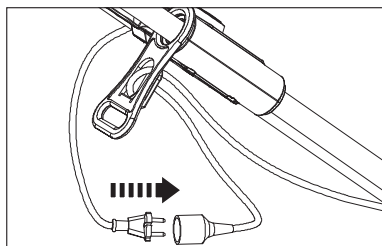

Fig. 8
2. Connect the power cord (4) to the socket of the extension cord (Fig. 8).